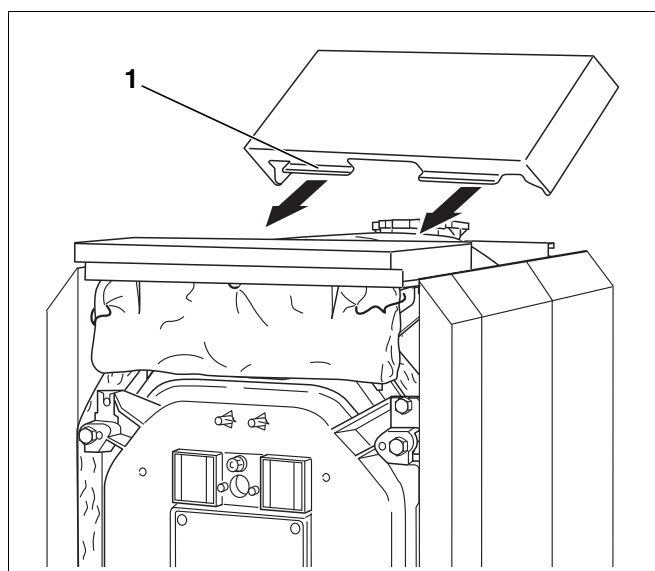

Fig. 53 Fitting the centre hood
- Push the centre boiler cover with the folded edges (Fig. 53, [1]) under the front boiler cover and insert into the bead of the side panels.